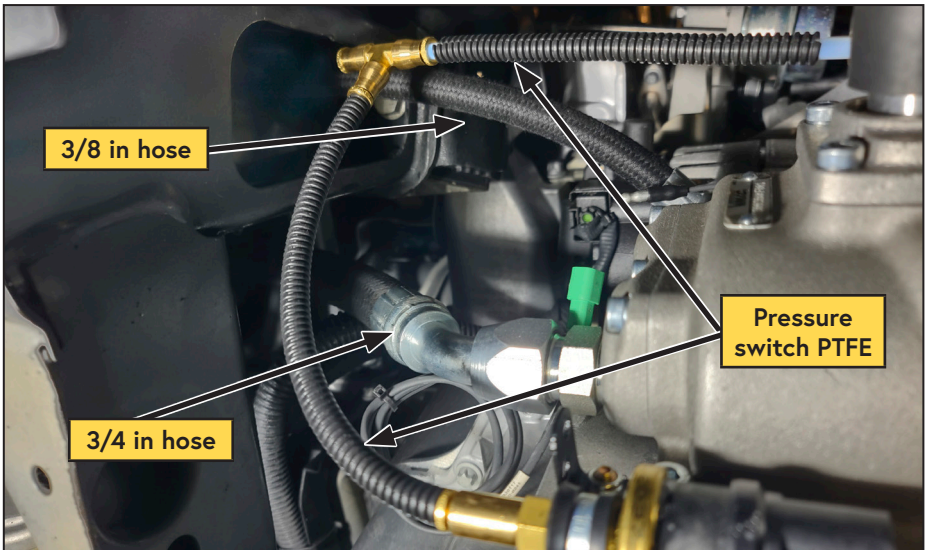

Figure 33 — Install hoses
- Route the 3/4 in and 3/8 in hoses, as well as the 1/4 in PTFE tube, over the frame crossmembers and steering rack (Figure 33).